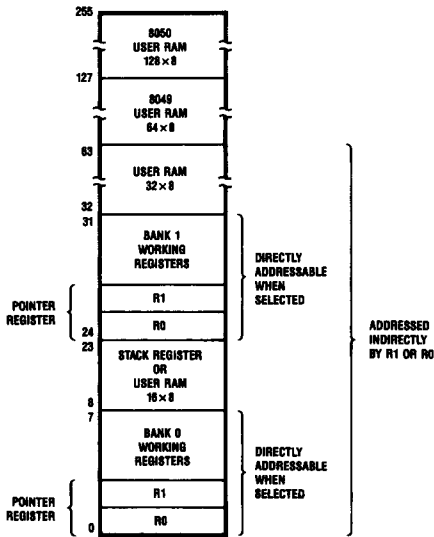

FIGURE 3. 8048-Series Resident RAM Data Memory Map
The resident RAM data memory is arranged as 64 (INS8035/8048), 128 (INS8039/8049), or 256 (NS8040/8050) bytes. RAM addressing is implemented indirectly via either of two 8-bit RAM pointer registers R0 and R1. These pointer registers are essentially the first two locations in the RAM (see *Figure 3*), addressing 00 and 01. RAM addressing may also be performed directly by 11 direct register instructions. The register area of the RAM array is made up of eight working registers that occupy either the first bank (0), locations 0 to 7, or the second bank (1), locations 24 to 31. The second bank of working registers is selected by using the Register Bank Switch instruction (SEL RB). If this bank is not used for working registers, it can be used as user RAM.